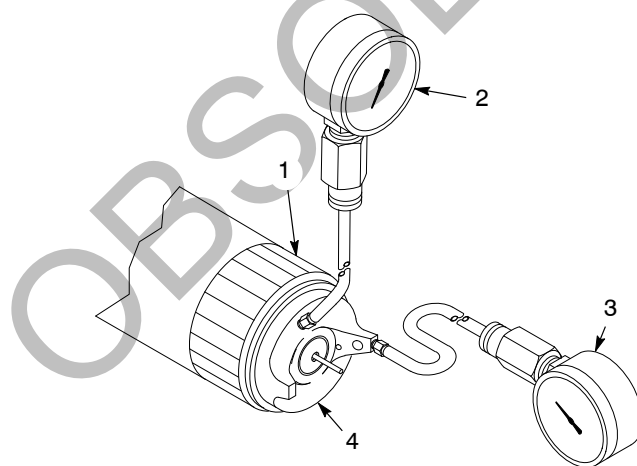

Figure 4-1 Checking Air Cap Performance
The air pressure settings in Table 4-1 do not guarantee optimum KVLP performance. After making an air pressure setting, perform a KVLP compliance test. See Figure 4-1 and refer to *Checking Air Cap Performance* on page 4-6 for kit installation.
1. See Figure 4-1. Turn off the control unit and ground the spray gun electrode to remove any residual charge.
3. Remove the production air cap and retaining ring and replace them with the air cap (4) and retaining ring (1) included with the KVLP compliance kit.